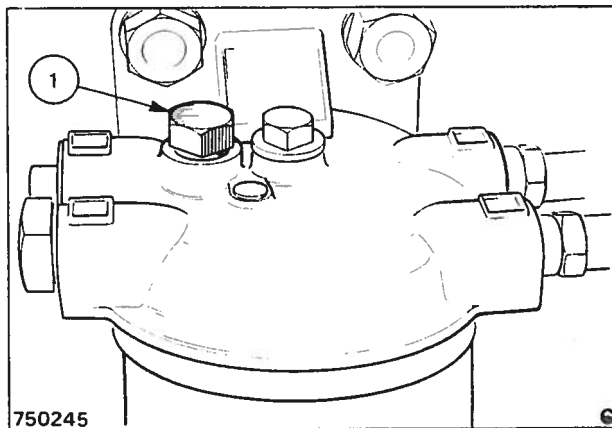

Fig. 38 Location of Filter Bleed Screw
2. Loosen the bleed screw on top of the filter two or three turns, Fig. 38, and operate the priming lever on the fuel lift